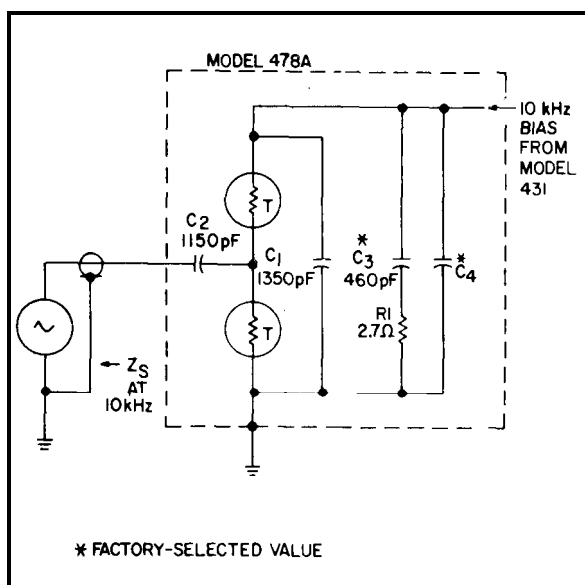

Figure 4. Source Impedance Shunting One RF Thermistor Mount
27. With the Model 478A mount connected to the RF system, the source impedance shunts one of the RF thermistors (see Figure 4); when the Model 478A mount is disconnected, the source impedance is removed. Unless source impedance is high, this variation in impedance affects the RF bridge 10-kHz feedback loop in the power meter, and the zero-level setting obtained with the source disconnected is no longer zero for the measurement. This error can be eliminated by terminating the mount in an impedance which approximately matches the generator impedance at 10 kHz; the termination should be connected while the mount is disconnected (see Paragraph 26) from the source. For example, if the impedance presented by the RF system to 10 kHz is low (1K ohm or less) terminate the thermistor mount in a 50-ohm resistor or a short. On the other hand, if the impedance of the RF system at 10 kHz is high (100 K ohms or more) leave the thermistor mount unterminated during zero-set.